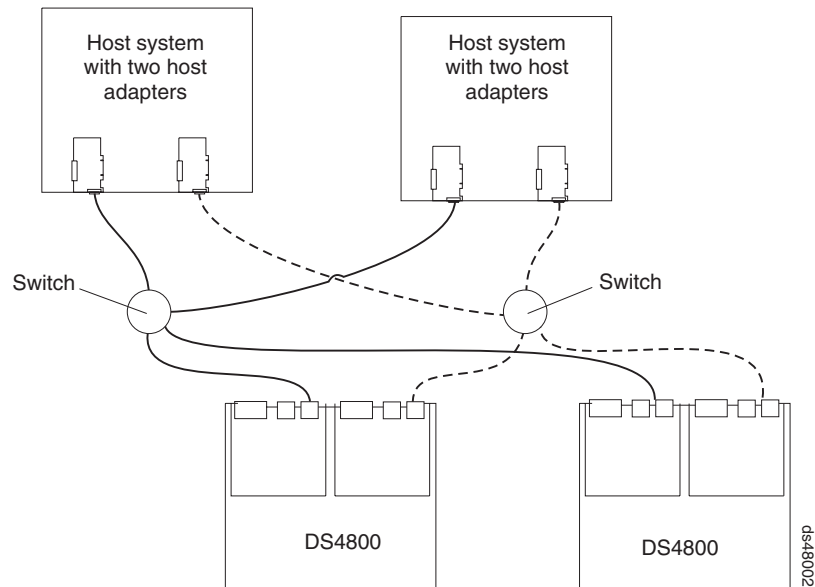

Figure 68. Example of two storage subsystems in a dual SAN environment
- Dual SAN fabric configuration, with an additional DS4800 attached, as shown in Figure 68 on page 95
In Figure 68, the fibre channel switches are not connected together. Each switch forms its own SAN fabric.